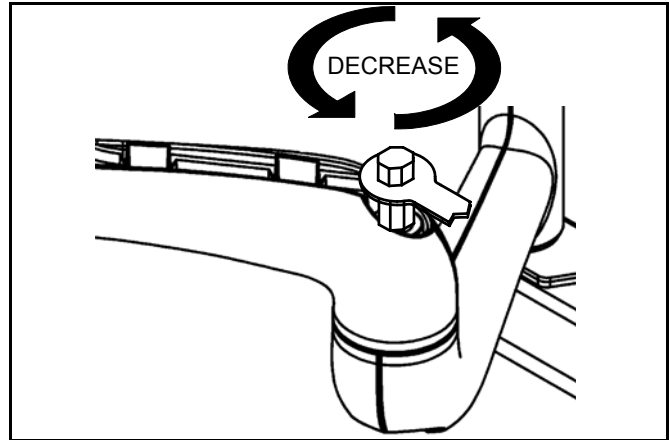
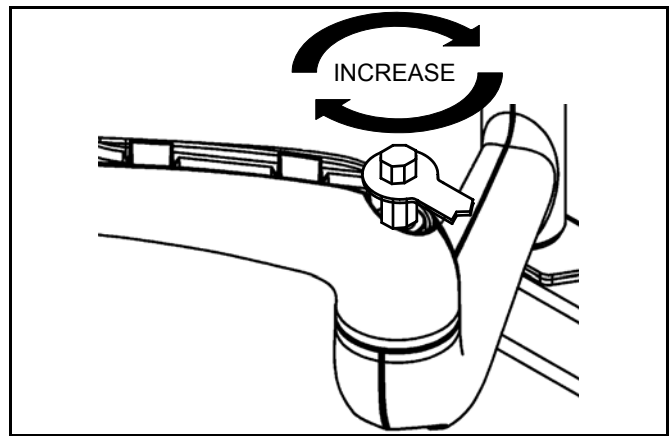

Figure 13
Figure 14
4. Using the adjustment wrench (D), turn adjustment bar (C) clockwise to increase swing arm tension or counterclockwise to reduce swing arm tension. (Small adjustments of 1/8 turn or less are typically all that is required to achieve desired tension.) (See Figure 13) and (See Figure 14)